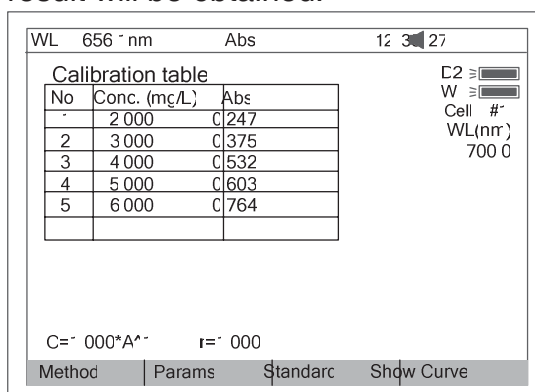

Fig 33
3.3.3 Pull the first sample cuvette of known concentration into the light path, Press the key **【START/STOP】** to get values of standard curve one by one (Fig 33).
In Fig 33 press **【OPEN】** and then press **【^】** or **【v】** to select the file with type *****.fit**. At last press **【ENTER】** to confirm.